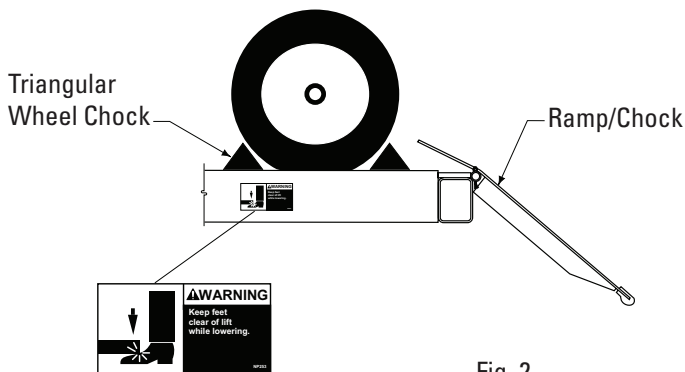

Fig. 2
2. Drive vehicle onto lift and center it on runways. At all times, be sure rear wheels are forward of the ramp/chocks and the ramp/chocks will clear tires when the lift is raised, Fig. 2. Driver and passengers must exit before raising.
3. Place triangular wheel chocks on each side of one rear tire, Fig. 2.